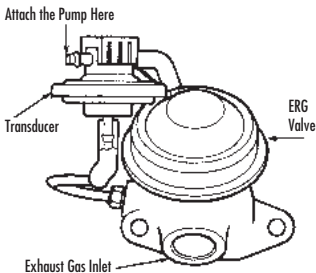

FIGURE 11: TEST THE VACUUM SOURCE FOR THE BPV WITH YOUR PUMP
1) Remove the air cleaner and plug the intake manifold fitting. Start the engine and bring it to normal operating temperature. Position the fast-idle cam follower on the second step of the fast-idle cam (to obtain about 1500 RPM), and then note engine speed on a tachometer. Use the pump to check the source vacuum at an intake manifold port (FIGURE 11). Note this reading.